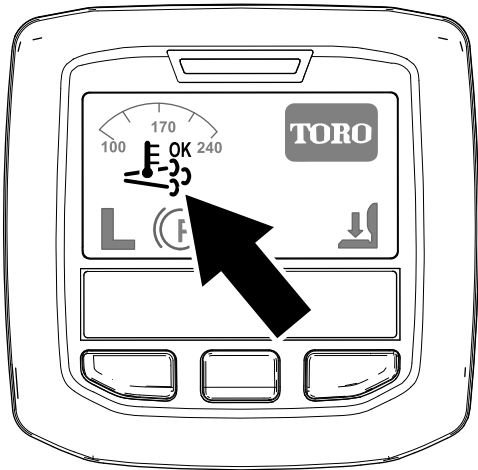

Figure 40
- The assist/reset-regeneration icon displays in the InfoCenter (Figure 40).